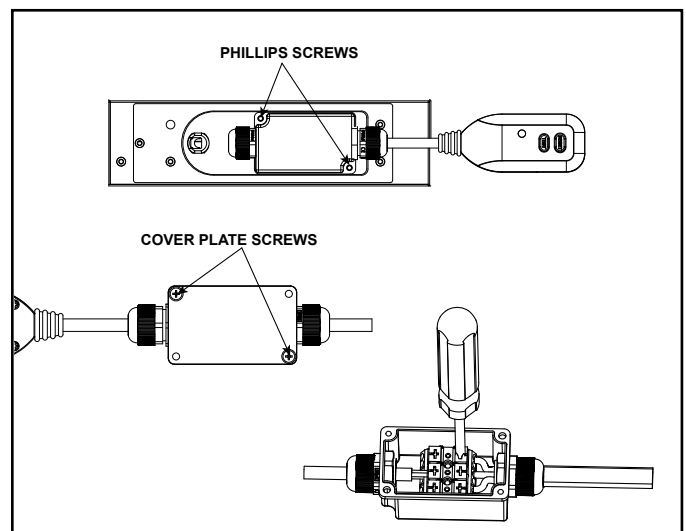

Figure 4.10
1. Remove the terminal block housing on the right top end of the appliance, by removing two phillips screws. On the underside of the terminal block housing remove the two remaining phillips screws attaching the cover plate to the housing. See Figure 4.10.